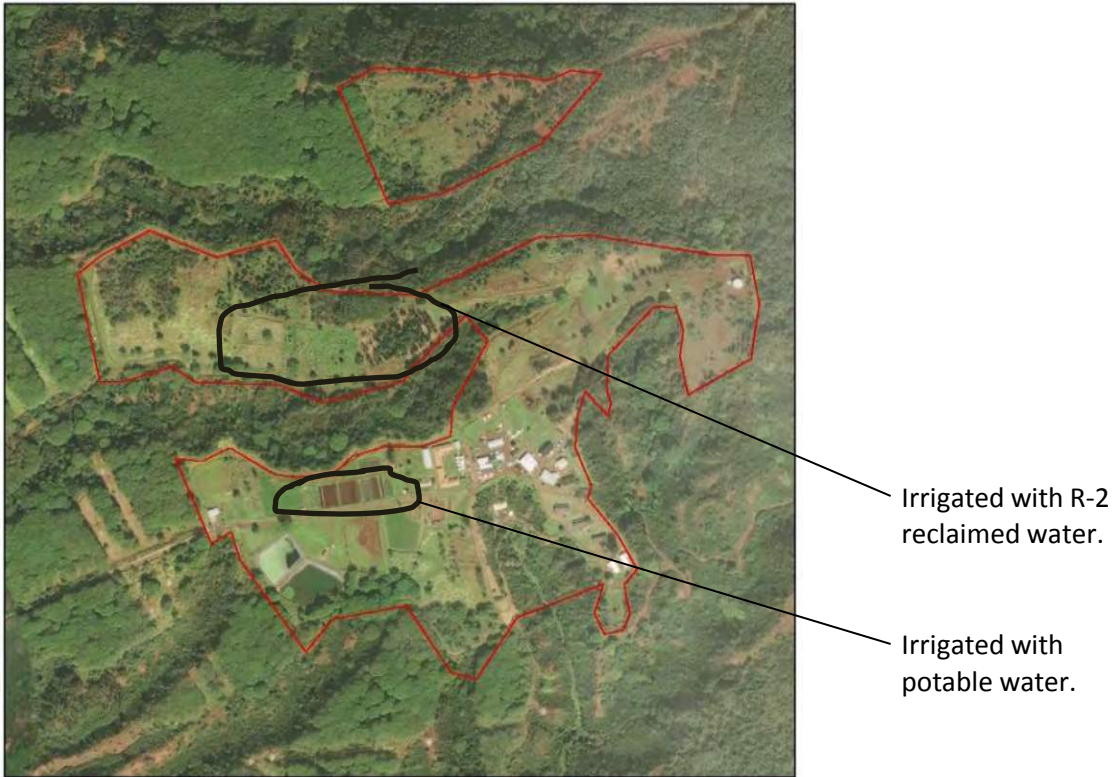

Figure 1: Crops have different sources of irrigation, as noted in callouts. Information needs to be verified by WCF staff.
- 1.3. Several wastewater configurations were discussed in a 2005 report,1 including replacing the package plant, getting rid of the lagoons, and upgrading the system to R-1, which would have allowed WCF to use reclaimed water on a wider variety of crops, i.e., leafy green-type vegetables for human consumption. Currently R-2 water is used only at the northern portion of the main site, to irrigate pine trees used by the City and orange trees (Figure 1 – information needs to be verified by WCF staff). Ultimately the decision was made to forego system upgrades and simply replace the pond liner.
- 2.3. The 2005 report is the latest wastewater report and accurately reflects the current wastewater system. Wastewater from WCF flows to the green monster (which is basically acting as filtration unit), then to the hyacinth pond to remove nutrients and then it gets chlorinated. The adjacent lagoon is used to store R-2 water. R-2 water is also pumped up to a 24,000 gal tank and is used to irrigate trees/crops at the northern portion of the site (figure 1). There is a backup generator (may not be operational) located in the vicinity of the Green Monster. The crops grown at the southern portion, next to the guard house, are supplied with potable water (figure 1).